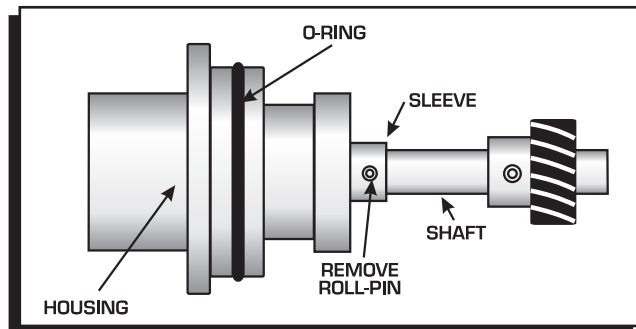

Figure 7 Removing the Retaining Sleeve.
2. Remove the roll-pin from the shaft retaining sleeve and slide the shaft two inches out of the housing (Figure 7).